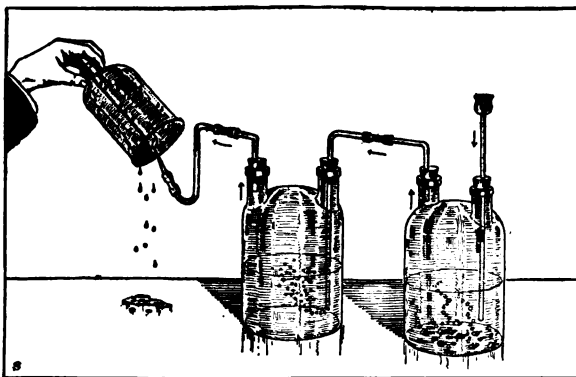

FIG. 37. Condensing water that is formed from burning hydrogen.
**Exercise 3.** Hold a tumbler or receiver that is both dry and cold over the flame of burning hydrogen and notice the water that condenses upon the cool surface. What is uniting with the hydrogen to cause it to burn (Fig. 37)? What evidence does this afford as to the composition of water?